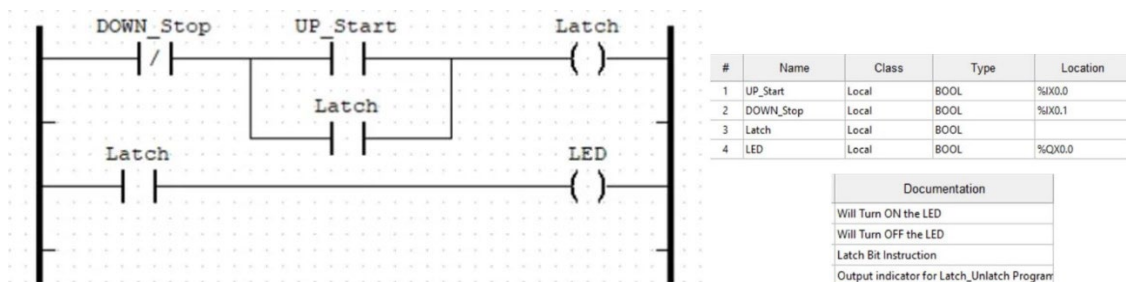

Fig. 5: Ladder Diagram for the Start-Stop Control Circuit
1. Create the ladder diagram shown in Fig. 5.